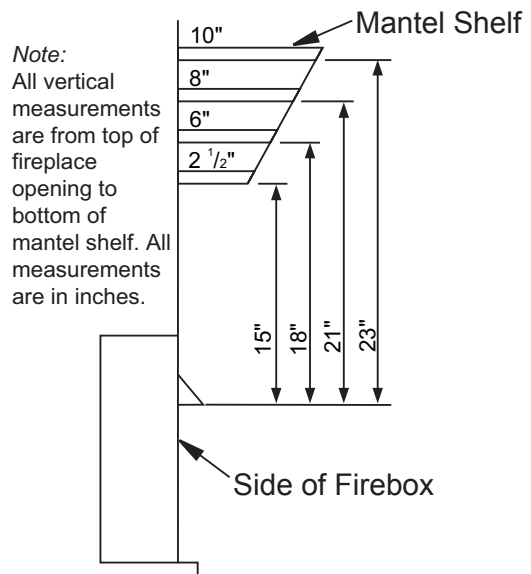

Figure 10 - Minimum Mantel Clearances for Built-In Installation
C. For mantel clearances, see Figure 10 on page 10.